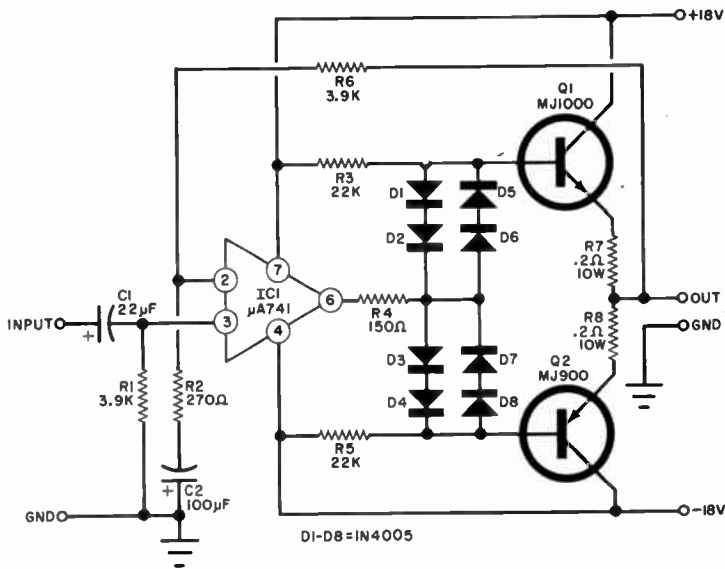

Fig. 3. Operational amplifier driving a pair of power Darlington's makes excellent 35-watt universal audio system according to designer Guy C. Sheatz.
**Reader's Circuit.** Using the latest semiconductor devices, the simple power amplifier circuit illustrated in Fig. 3 was submitted by reader Guy C. Sheatz (612 McIntyre Road, Rockville, MD 20851). Capable of delivering better than 35 watts to loudspeaker loads when powered by a dual 18-volt dc source, the amplifier has a frequency response beyond audibility and has more than adequate sensitivity for use with conventional preamplifiers. It can be used in PA equipment, phonographs, tape players, receivers, modulators, paging systems, or virtually any equipment design requiring moderate audio power levels.